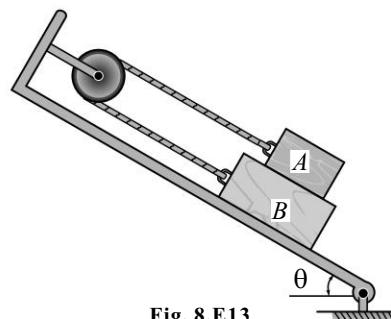

Fig. 8.E13
14. Find the least value of P that will just start the system of blocks shown in Fig. 8.E14, moving to the right. The coefficient of friction under each block is 0.30 .